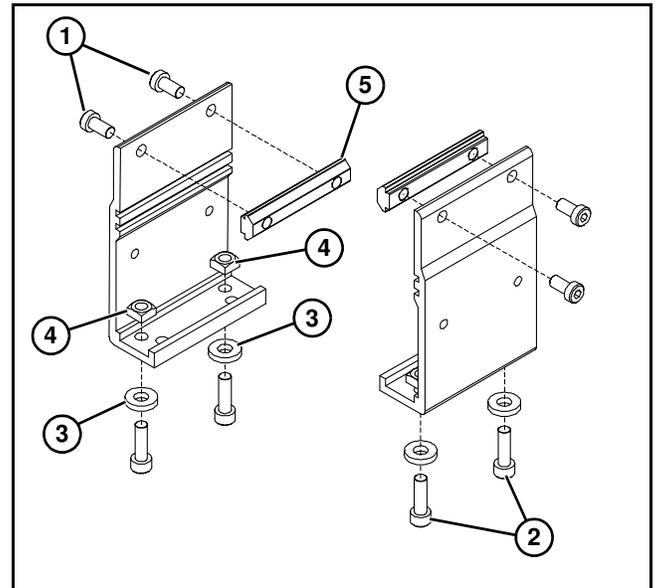
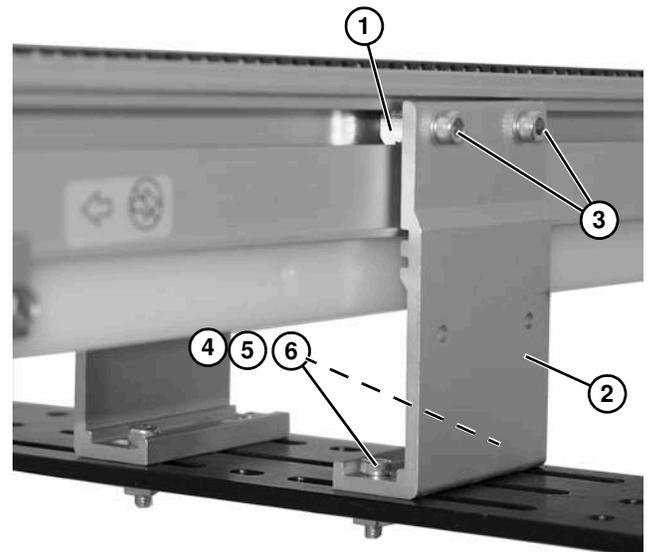

Figure 10
Figure 11
- Locate brackets. Exploded view shown in Figure 10.
- Remove screws (**Figure 10, item 1 & 2**), washers (**Figure 10, item 3**), nuts (**Figure 10, item 4**) and T-bars (**Figure 10, item 5**) from brackets.
- Insert T-bars (**Figure 10, item 5**) into conveyor side slots (**Figure 11, item 1**). Fasten brackets (**Figure 11, item 2**) to conveyor with mounting screws (**Figure 11, item 3**).
4. Fasten brackets to support stand with mounting screws (Figure 11, item 4), washers (Figure 11, item 5) and nuts (Figure 11, item 6).
5. Tighten screws (Figure 11, item 3 & 4) to 60 in-lb (7 Nm).